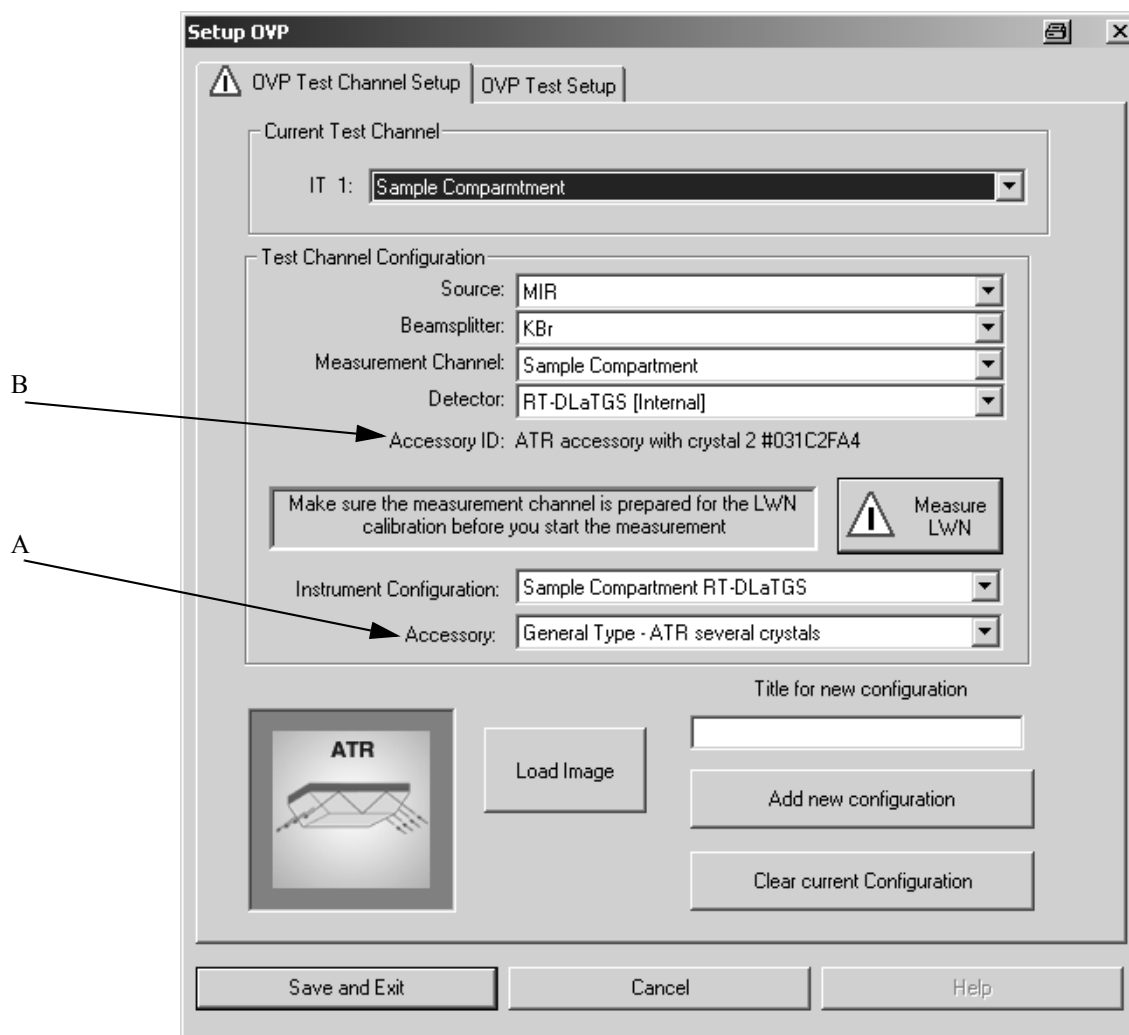

Figure 8: Setup OVP
If you have selected any accessory in OVP (A in figure 8) the measurement configuration, i.e. the combination of source, beamsplitter, measurement channel and detector, will be extended by this accessory (B).